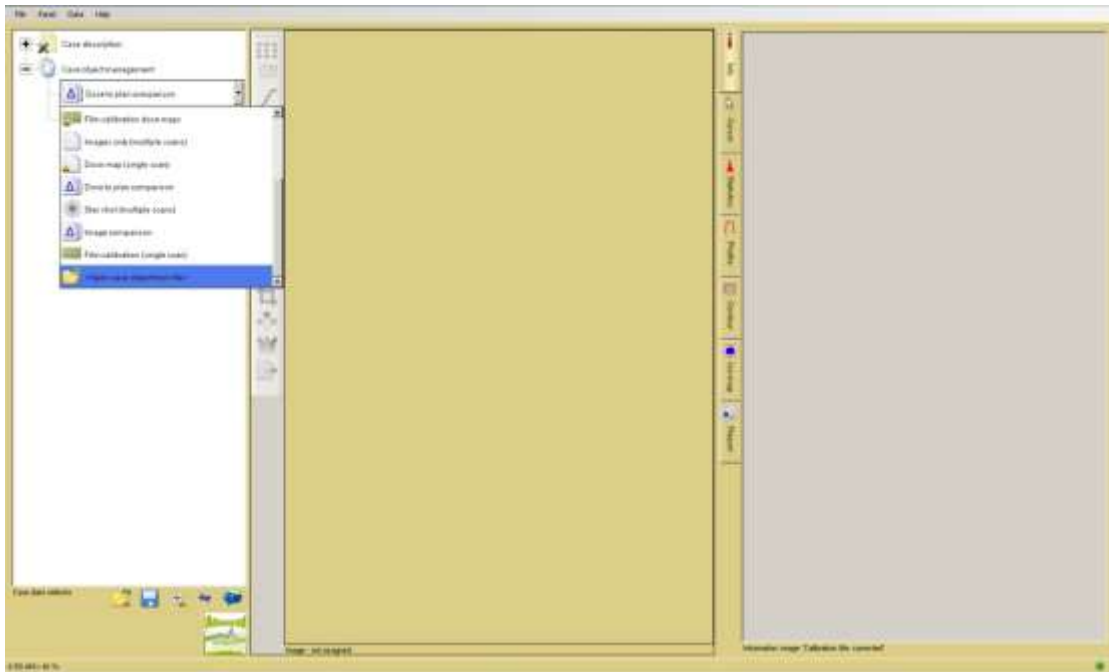

Figure 1
6. Turn on the scanner, connect a computer and open FilmQA Pro™. From the drop-down menu (Fig. 1) under “Case Object Management” select “Open Case Object from File”. Go to the folder containing the file with the relevant fixed calibration object, e.g. XXXXXXXX.CaseObj, and open the file (assuming the primary calibration has been done for the production lot of film using FilmQA Pro and the data have been saved as a Calibration Object).